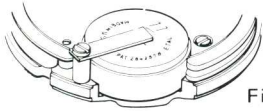

Fig. 3-3
- 1) After setting the power cell, hold it with a temporary power cell holding spring (necessary for ascertaining if the watch works) as shown in Fig. 3-3.